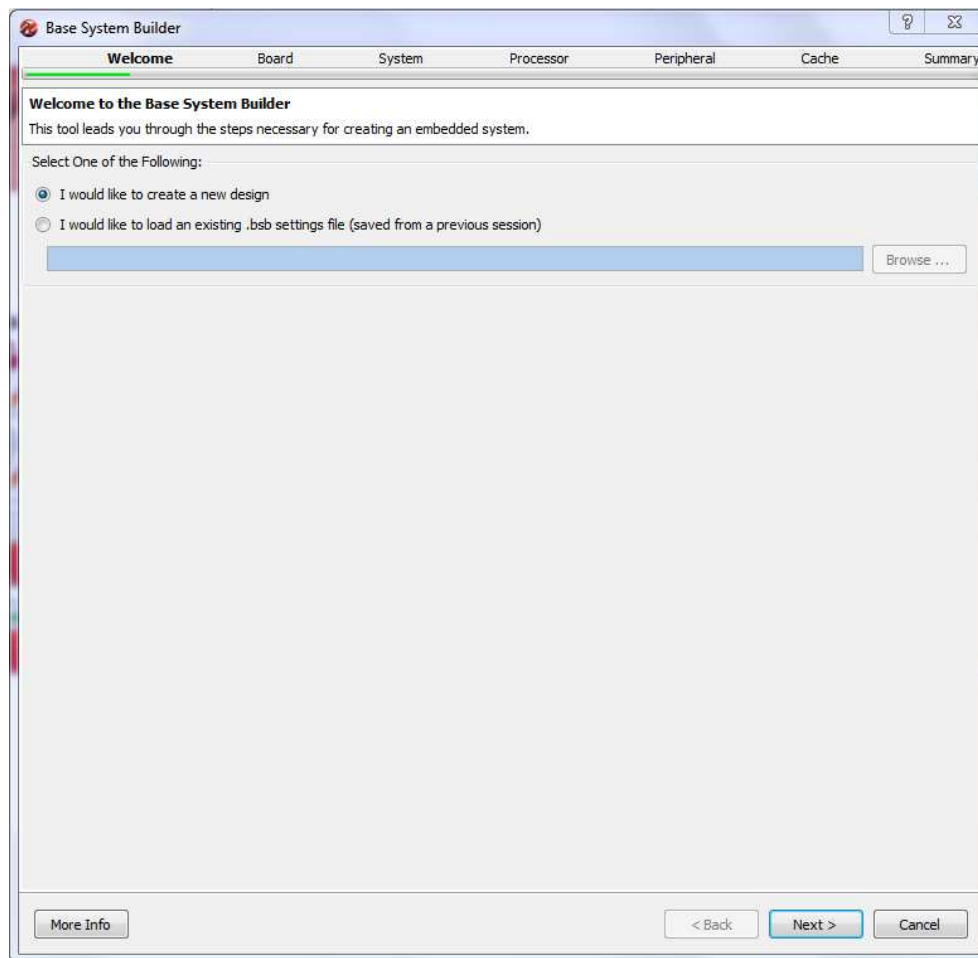

Figure 4. Base System Builder - Welcome Screen (Step 4)
When done press “OK”. This will start the “Base System Builder” tool that will help us build and configure the hardware system as shown in Figure 4.
Step 4: The welcome screen shown in Figure 4, is the first screen in the Base System Builder wizard that will guide you to build your system. In this screen select **“I would like to create a new design”** and then press next. This will let you create a new design.